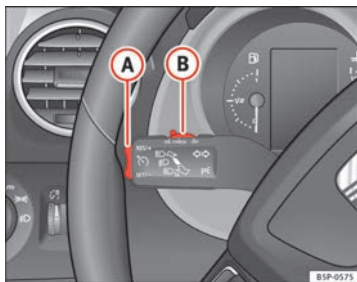

Fig. 151 Turn signal and main beam headlight lever: switch and rocker switch for the cruise control
- Press the upper part **RES/+** of the rocker switch ⇒ fig. 151 **A** to increase the speed. The vehicle will continue to accelerate as long as you keep the rocker switch pressed. When you release the switch, the new speed is stored.
Cruise control is switched off if you reduce speed by depressing the brake pedal. You can reactivate the control by pressing once on the upper part of the rocker switch **RES/+** ⇒ fig. 151 **A**.